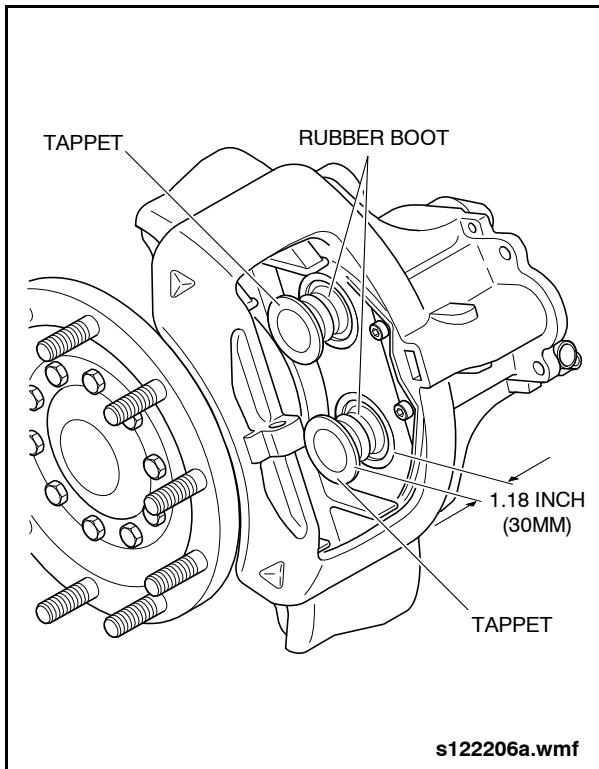

Fig. 2-116: Tappet & Rubber Boot Inspection
2. Rotate the adjuster clockwise until the tappets extend approximately 1.18" (30) from the caliper surface. This will allow full extension of the tappet rubber boot for a proper visual inspection. See "Fig. 2-116: Tappet & Rubber Boot Inspection" on page 103.